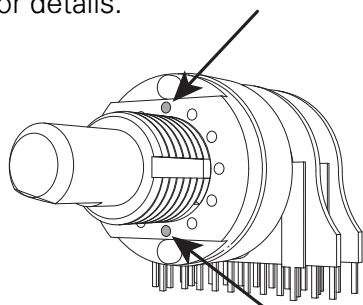

Fig. 1
1. Preparation of the rotary switch consists of inserting the two limiter pins into the 12 o'clock and 6 o'clock position then applying the foil sticker to retain the pins in place. This will limit the switch to 6 positions and ensure it works correctly as a 4P6T switch. See Fig. 1 for details.